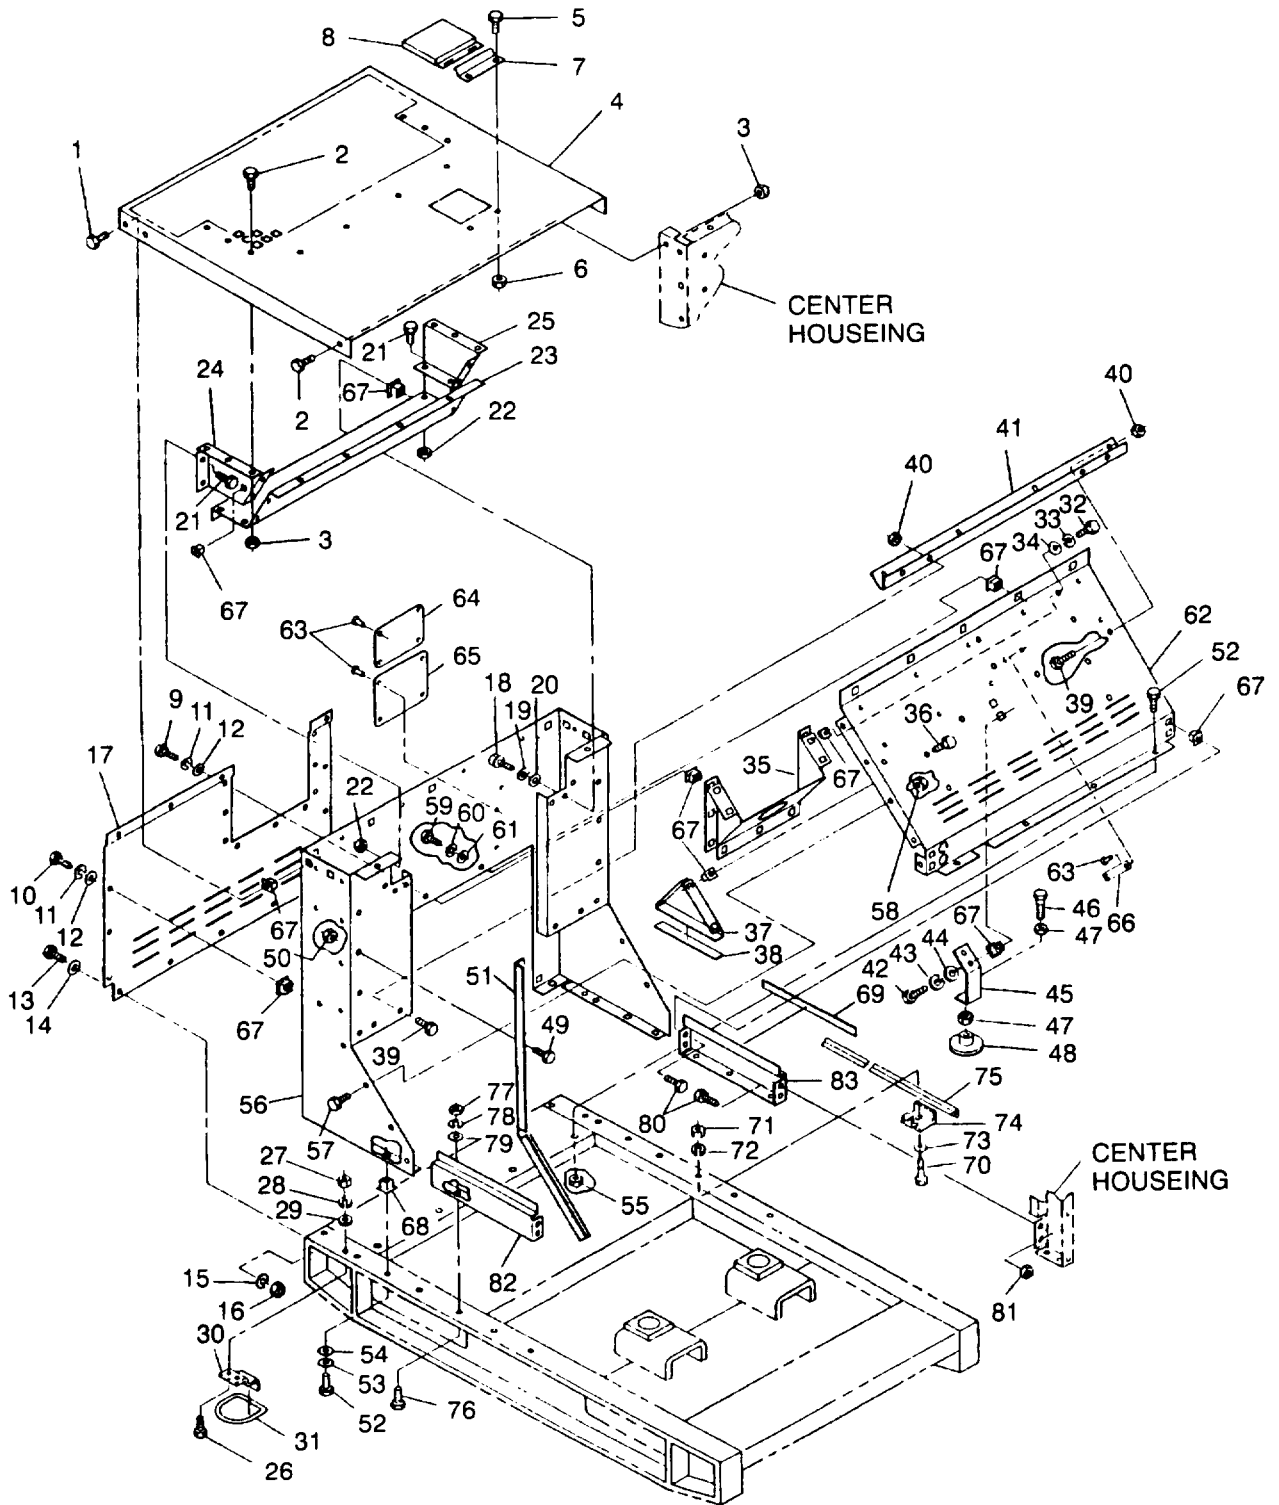

Figure 2-8. Generator Set front Housing Section
- c. Remove bolts (1, Figure 2-8), bolts (2), nuts (3), and top housing panel (4).
- d. Remove bolts (5), nuts (6), bracket (7), and exhaust door (8) from top housing panel (4).
- b. Inspect top housing panel (4, Figure 2-8), exhaust door (8), and bracket (7) for dents, cracks, loose paint, and corrosion.
- a. Install exhaust door (8, Figure 2-8) and bracket (7) to top housing panel (4) with bolts (5) and nuts (6).
- b. Install top housing panel (4) on generator set with bolts (1 and 2) and nuts (3).
- c. Remove bolts (9, Figure 2-8), bolts (10), lockwashers (11), and washers (12).
- d. Remove bolts (13), washers (14), lockwashers (15), and nuts (16).
- e. Remove front housing panel (17).
Inspect front housing panel (17, Figure 2-8) for dents, cracks, loose paint, and corrosion.
- a. Install front housing panel (17, Figure 2-8) on generator set with bolts (13), washers (14), lockwashers (15), and nuts (16).
- b. Install bolts (9 and 10), lockwashers (11), and washers (12).
- d. Remove bolts (18, Figure 2-8), lockwashers (19), and washers (20).
- e. Remove bolts (21), nuts (22), and deflectors (23), (24), and (25).
- l. Remove bolts (26, Figure 2-8), nuts (27), lockwashers (28), washers (29), front lifting ring brackets (30), and lifting rings (31) from generator set.
- n. Remove bolts (32, Figure 2-8), lockwashers (33), washers (34), and filler neck panel (35) from air deflector (62).
- o. Remove bolts (36) and fuel tank holddown brackets (37).
- p. Remove bolts (39), nuts (40), and channel (41) from front housing (56) and air deflector (62).
- r. Remove bolts (42, Figure 2-8), lockwashers (43), washers (44), and bracket assembly (45) from air deflector (62).
- s. Remove bolt (46), nuts (47), and holddown plate (48) from bracket (45).
- v. Remove bolts (49, Figure 2-8), nuts (50), and door stops (51) from front housing (56).
- w. Remove bolts (52), lockwashers (53), and washers (54), nuts (55) and front housing (56) with air deflector (62) from generator set.
- x. Remove bolts (57) and nuts (58) from air deflector (62) and housing (56).
- y. Remove bolt (59), lockwasher (60), washer (61), and air deflector (62).
- z. If necessary, drill out rivets (63), and remove identification plate (64), set rating plate (65), and external fuel supply plate (66).
- c. Check for missing or damaged cage nuts (67, Figure 2-8) and (68).
- d. Inspect door seals (69) for looseness or damage.
- e. Inspect cotton webbing (38) for looseness or damage.
- c. Repaint surface in accordance with TM 43-0139. (F) Refer to applicable directives.
- d. Replace all missing or damaged cage nuts (67, Figure 2-8) and (68).
- e. Replace damaged door seals (69).